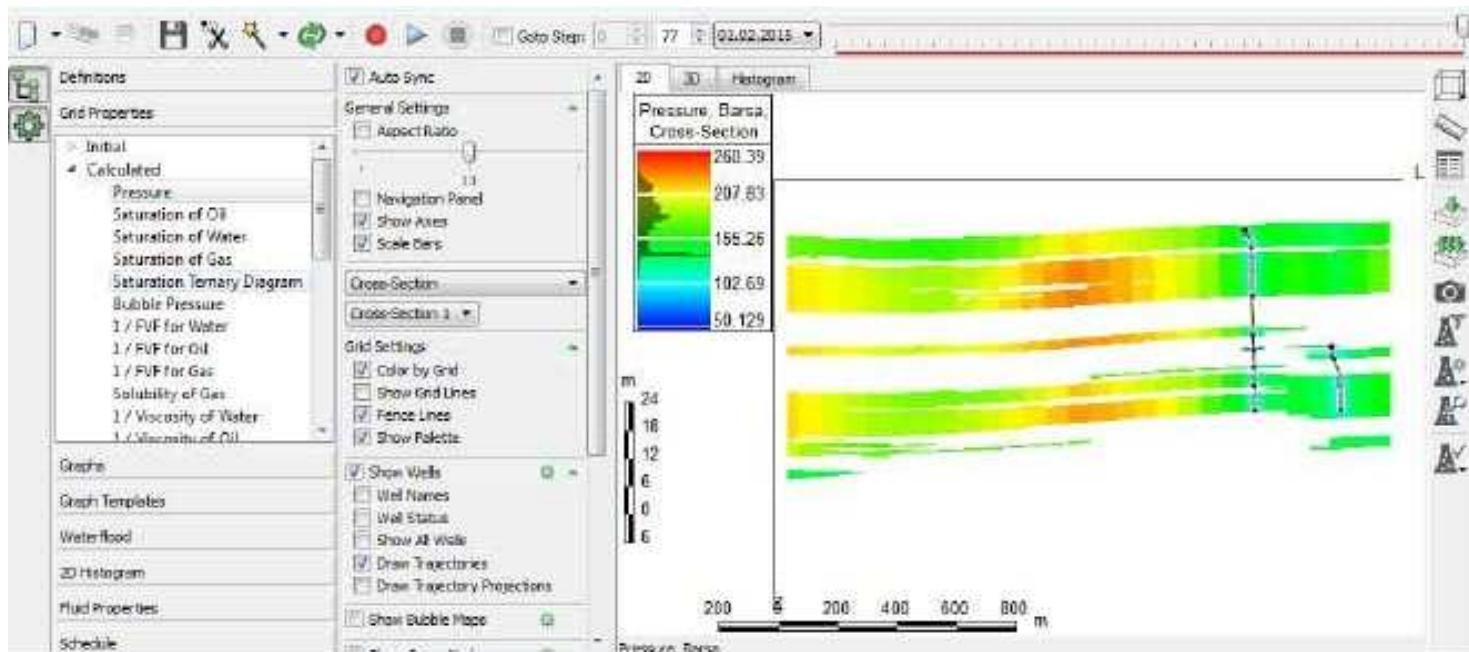

Figure 31. Cross-Section 1 is a vertical section.
2. Cross-Section 1 is the created vertical cross-section – figure 31. Cross-Section 2 is the horizontal cross-section.